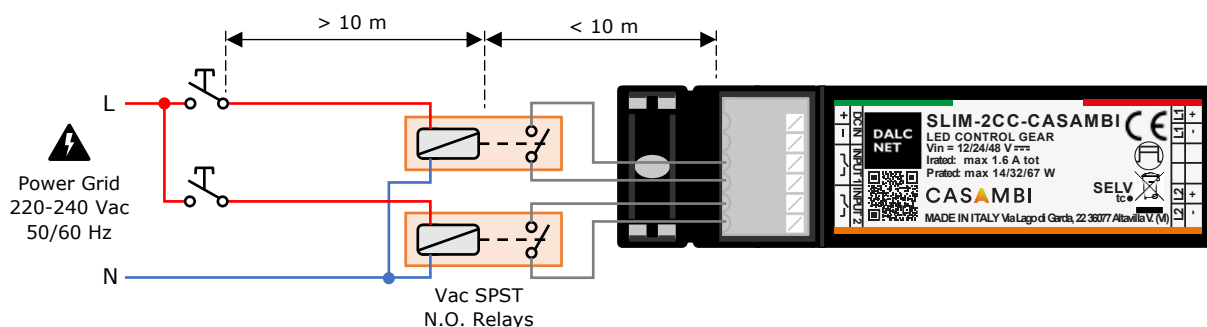

Figure 5: Local Command connection diagram for Long Distances
- ⚡ For longer distances (>10 m), it is recommended to use an N.O. dry contact relay module, connected between the "Input" terminal of the SLIM-2CC-CASAMBI and the power source (e.g. mains voltage 230 Vac). Figure 5 shows an example of a Local Command connection recommended for long distances.